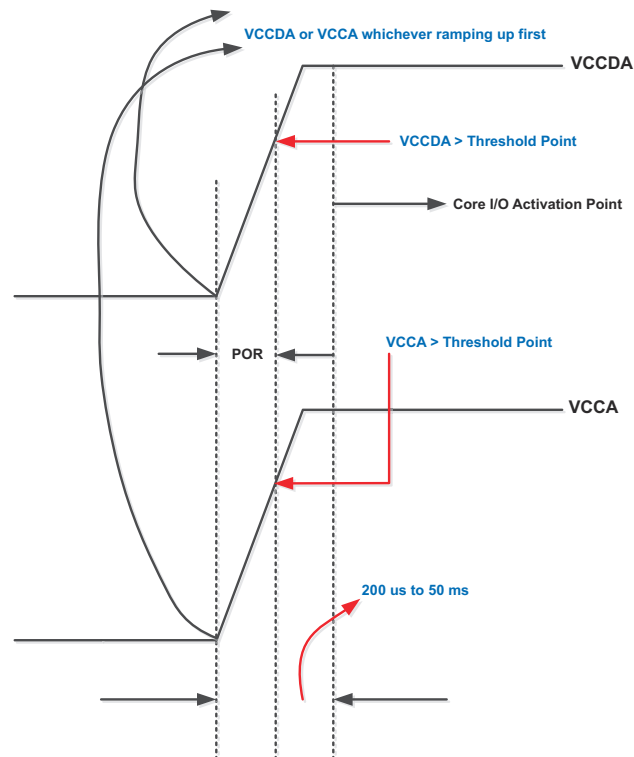

Figure 1: POR Versus Core and I/Os Activation Points
- ii) When VCCDA and VCCA supplies cross their power-up-to-functional voltage (that is, voltage threshold) levels, the internal POR is de-asserted, refer to Figure 1 and Table 1. The internal blocks are enabled or activated one by one sequentially.
The global GCLR or GPSET is asserted to all of the core and I/O flip-flops during power-up and it is active until both VCCA and VCCDA reach their operational thresholds, refer to Figure 1 and Table 1. When VCCA and VCCDA reach their operational thresholds, the global signals are de-asserted, the user CLR/PSET signals take over.